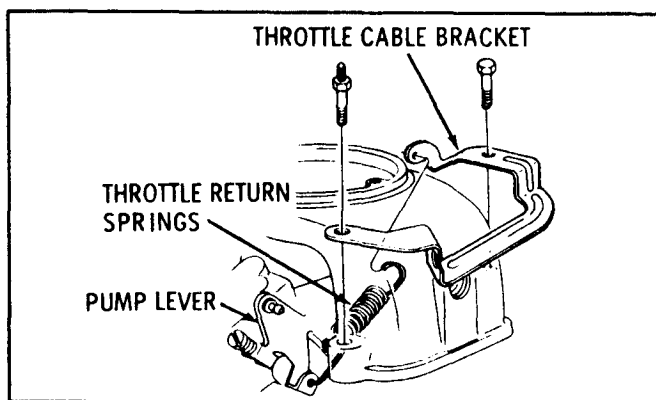

Figure 6C5-19 V8 Throttle Return Spring
3. Remove the air crossover (Figures 6C5-6 or 6C5-7) and install intake manifold screened covers J-26996-10 on the V8 or J-29657 on the V6. On the V6 disconnect or remove fuel lines and fuel pump. (Figure 6C5-4).
- A. On the V8, disconnect the throttle rod (Figure 6C5-5) and throttle return spring (Figure 6C5-19). Remove the throttle bellcrank.
- B. On the V6, disconnect the throttle cable (Figure 6C5-20 and T.V./detent cable from the pump throttle lever. Disconnect the throttle return spring (Figure 6C5-21).